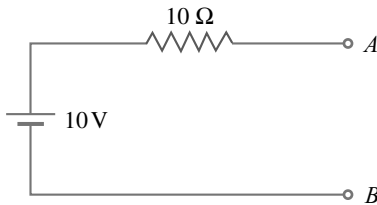

Fig. 1.16
**Example 1.3.** Convert the constant voltage source shown in Fig. 1.16 into constant current source.
(i) Place a short across  $AB$  in Fig. 1.16 and find the short-circuit current  $I$ .